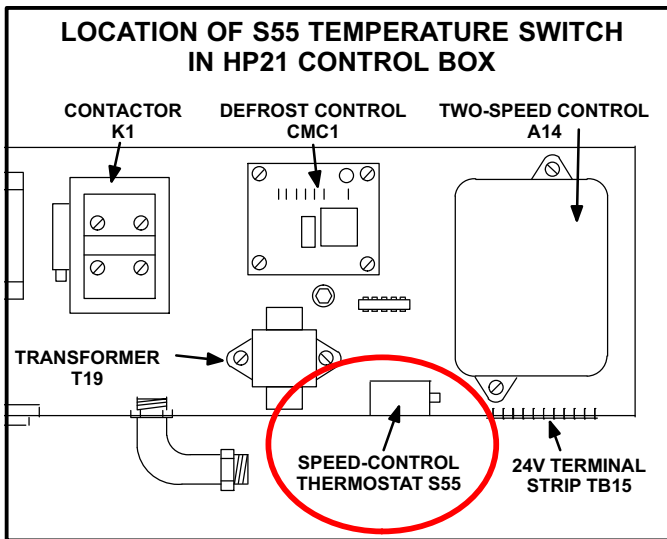

FIGURE 1
- 2 - Locate the existing S55 (HP21) or S23 (HPXA19/SPA) temperature switch installed on the control box inside the unit. See figures 1 and 2.
Speed-control thermostat S55 is a SPST temperature switch located in the unit control box (see figure 1). The switch uses a temperature-sensing bulb to monitor the ambient temperature.